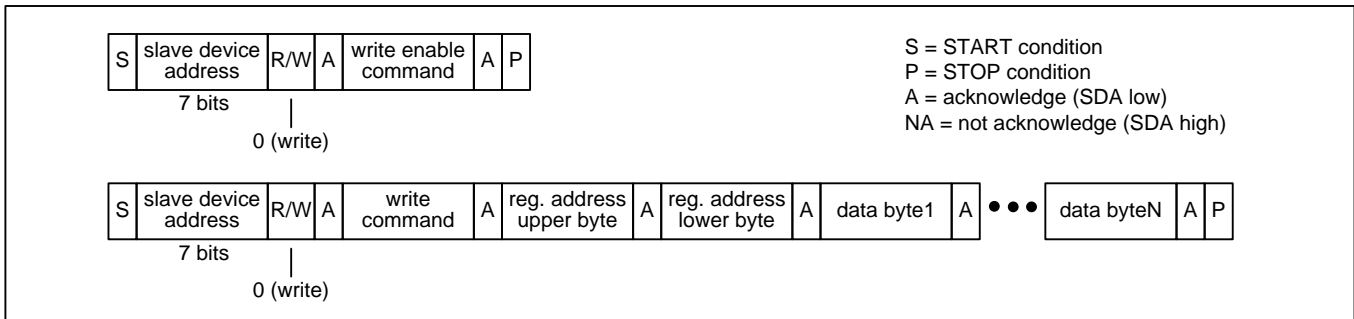

Figure 17 – I2C EEPROM Write Transaction Functional Timing
**EEPROM Writes.** The EEPROM memory is accessible when  $EESEL=1$ . The bus master first does an I2C write to transmit the SPI Write Enable command (see Table 4) to the device. The bus master then does an I2C write to transmit data to the device as described in the Register Write Transactions paragraph above. See Figure 17.